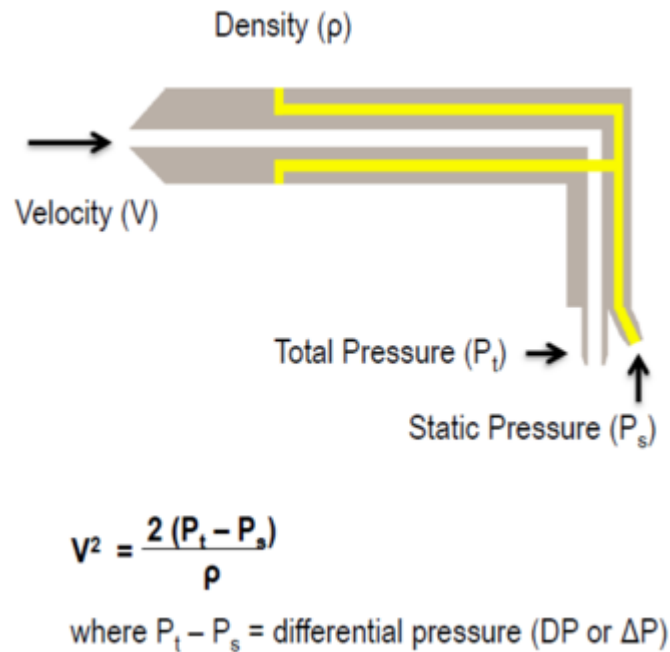

Figure 3: How a pitot tube works
As already known from Pitot tube applications, a differential pressure sensor like the **SDP3x** can be used to measure wind speed. Compared to other measurement principles like membranes this has the advantage that the sensitivity is higher at lower speed and thus is very accurate at small wind speeds. The measurement principle is quite simple, see figure 3 for details. In a tube with two openings, one opening faces towards the wind and sees the total pressure, the other opening sees the static pressure of the ambient (yellow marking in the picture). If the wind now blows into the front opening, a differential pressure (DP) is generated proportional to the velocity ($P_t - P_s$). This has to be scaled by the density of air ρ . This leads to the final formula $v^2 = 2 \cdot (P_t - P_s) / \rho$. The relation of differential pressure versus velocity is shown in figure 5. A single pitot tube measures only the wind speed from one direction. To get an angle of attack, it is necessary to combine two sensors or more to an array.